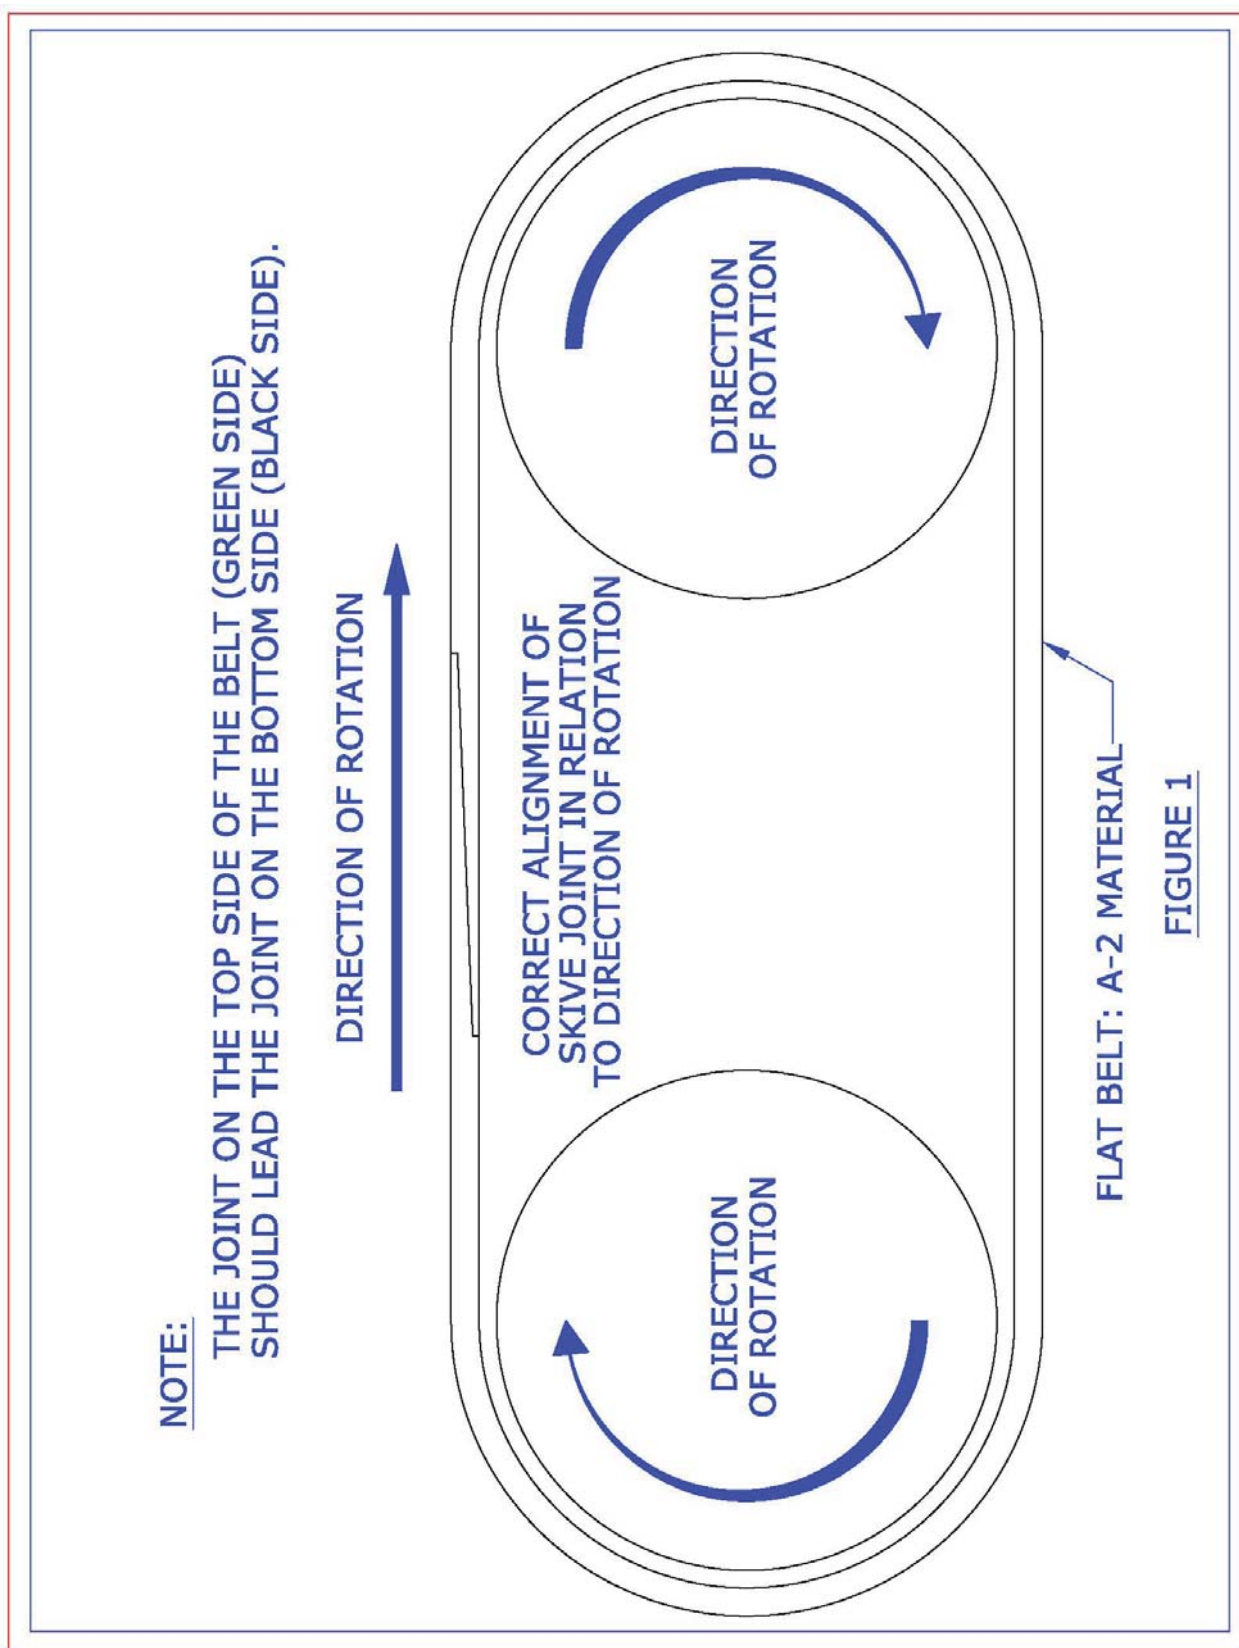

FIGURE 1
8.6	Secure 1 belt to the outside of the drive shaft, cover for a spare and slip one through the housing and over the drive pulley. NOTE: THE CURRENT BELT HAS A SPECIFIC DIRECTION OF ROTATION. (See figure 1, page 3)